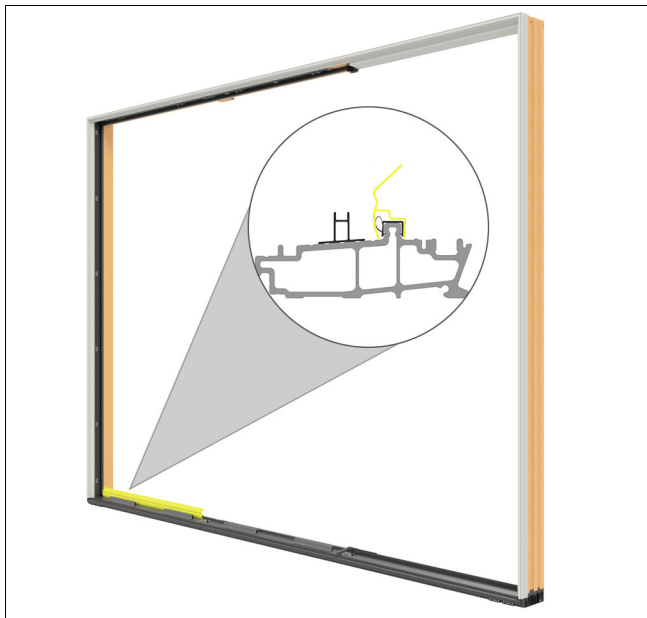

Figure 48
1. Install the weatherstrip jig. Install the leading edge of the jig under the weather strip bulb, then rotate the jig so the back edge snaps onto the interior leg of the weather strip. See Figure 48.